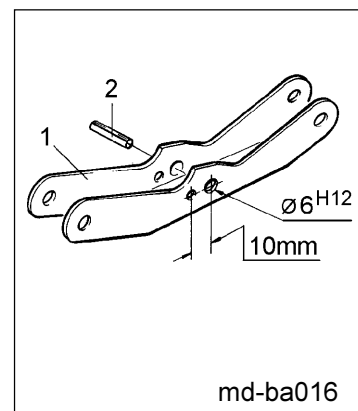

Fig. 18.46
- Remove expansion roll pin of the tripping lever (Fig. 18.46/1)
- Drill a new hole into the tripping lever according to Fig. 18.46 ($\varnothing 6_{H12}$ mm)
- Drive new expansion roll pin 6 x 45, DIN 1481 (Fig. 18.46/2) into the tripping lever (Fig. 18.46/1).